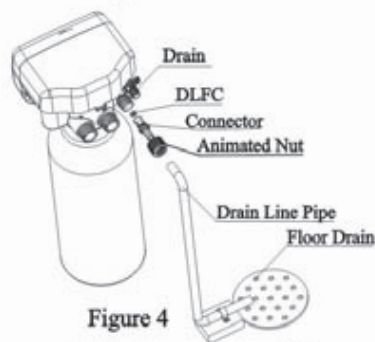

Figure 4
④ Install drain pipeline
- As the Figure 4 shows, Insert drain line flow control into drain outlet.
- Locate the drain hose well as the Figure4 show.
- Be sure not connect drain with sewer, and leave a certain space between them, avoid wastewater be absorbing to the water treatment equipment, such as showed in the Figure4.
⑤ Connect brine tube